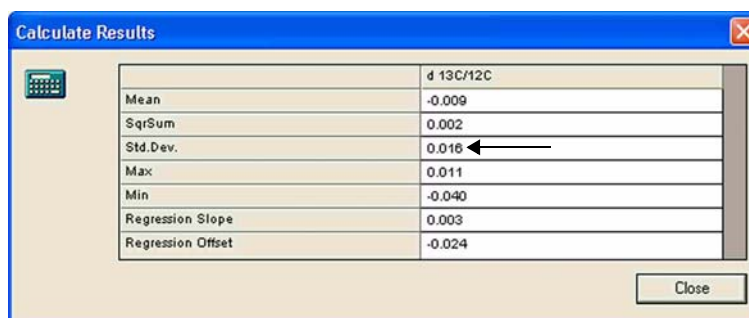

Figure 4-5. Calculate results
3. Choose **Calculate** to show online calculations of the single result (Figure 4-5). With this tool, advanced users can already approximate results and stability of measurements during online data acquisition (standard deviation and linearity, for example).